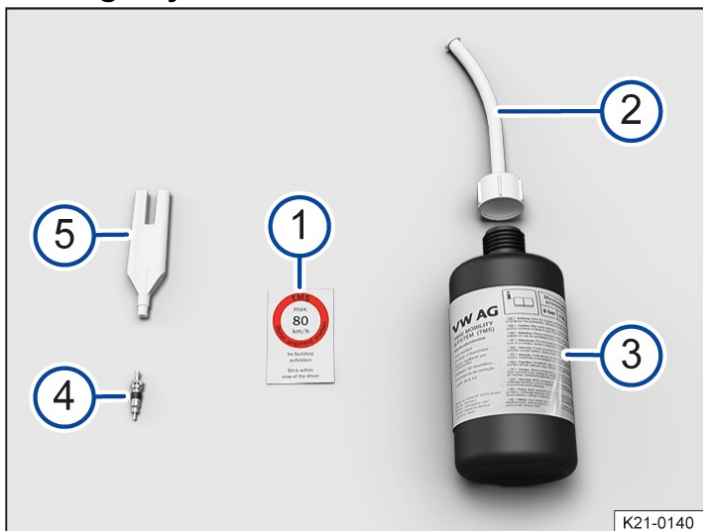

Fig. 1 Contents of the breakdown set (illustration).
- ① Sticker with the maximum permitted speed "max. 80 km/h" or "max. 50 mph".
- ② Tyre sealant tube with plug.
- ③ Tyre filler bottle.
- ④ Spare valve core.
- ⑤ Valve core extractor.
There is a slot for the valve core on the lower end of the valve core extractor → Fig. 1 (5). This is required for extracting the valve core from the tyre valve and then screwing it back into the valve again. This also applies to the spare valve core (4).
1. Take the sticker from the breakdown set → Fig. 1 (1) and stick it on the dash panel within the driver's field of vision.
3. Use the valve core extractor → Fig. 1 (5) to unscrew the valve core from the tyre valve. Place the core on a clean surface.
4. Shake the tyre filler bottle → Fig. 1 (3) vigorously to and fro several times.
5. Screw the tyre sealant tube → Fig. 1 (2) tightly onto the tyre filler bottle in a clockwise direction. The seal on the top of the bottle is pierced when doing so.
6. Remove the plug from the filler hose → Fig. 1 (2) and place the open end fully on the tyre valve.
9. Use the valve core extractor → Fig. 1 (5) to screw the valve core back into the tyre valve.